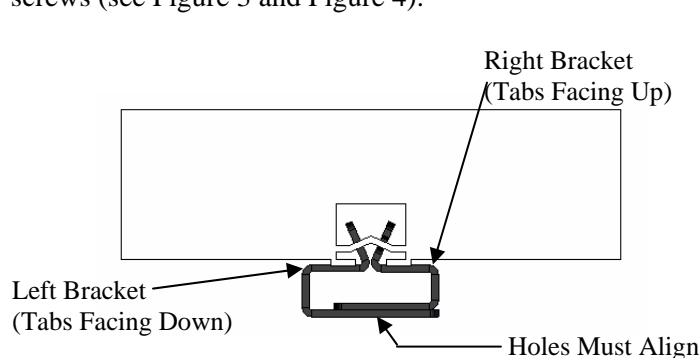

Figure 2
1. Insert the right adapter bracket; tabs facing up, into the office furniture equipment mounting slots at desired height (see Figure 2).
2. Insert the left adapter bracket, tabs facing down, into slots of office furniture equipment and slide the adapter bracket down until mounting holes align (see Figure 2).